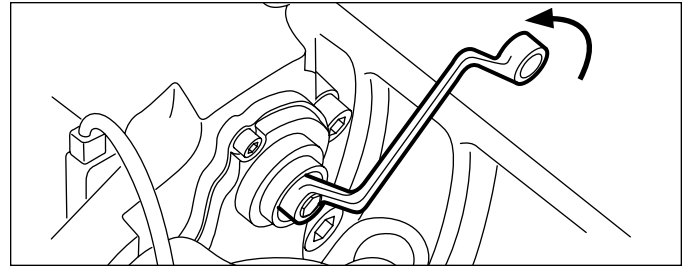

FIGURE 20 - BACKING-OFF (INCREASING) THE RUNNING CLEARANCE
4.2.2 Using a 10 mm. six-point box wrench, turn the Shear Adapter (61) **counter-clockwise** and listen for the sound of 3 clicks as the mechanism backs-off (increases) the running clearance. Note: Do not use an open-ended wrench as this may damage the adapter. See Figure 20.
**CAUTION:** Never turn the adjuster (23) without the shear adapter (61) installed. The shear adapter is a safety feature and is designed to prevent excessive torque from being applied to the adjuster. The shear adapter will fail (by breaking) if too much torque is applied.